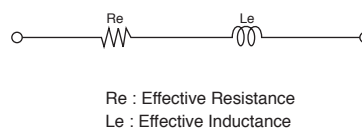

Fig. 2-4 Equivalent Circuit of CERALOCK® in the Frequency Band $F_r \leq F \leq F_a$
Considering the limited frequency range of $F_r \leq F \leq F_a$, the impedance is given as $Z = R_e + j\omega L_e$ ($L_e \geq 0$) as shown in Fig. 2-4, and CERALOCK® should work as an inductance L_e (H) having the loss R_e (Ω).